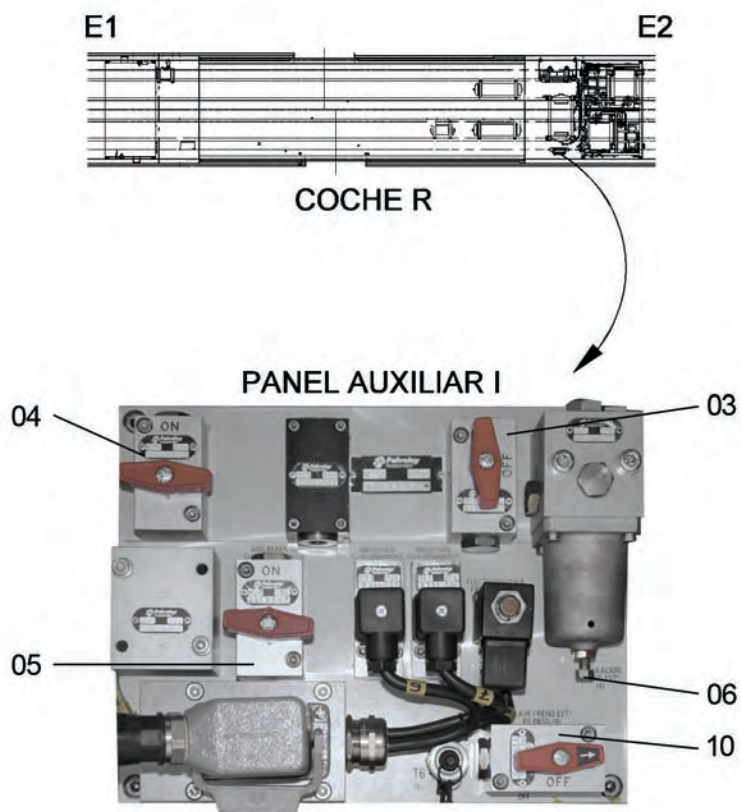

Figura 2-25 Panel auxiliar I coche R
2.6.1.4 Panel auxiliar I coche R (figura 2-25)